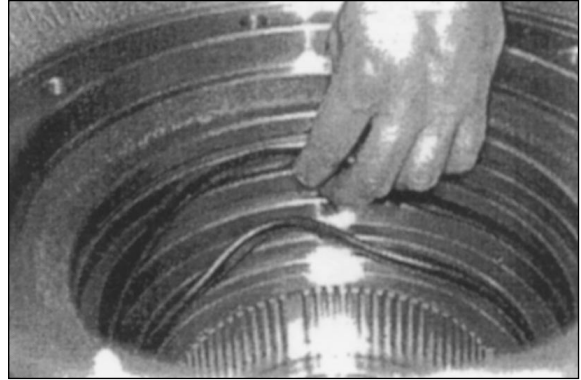

Figure 75
13. Remove O-ring and backup ring. Figure 75.